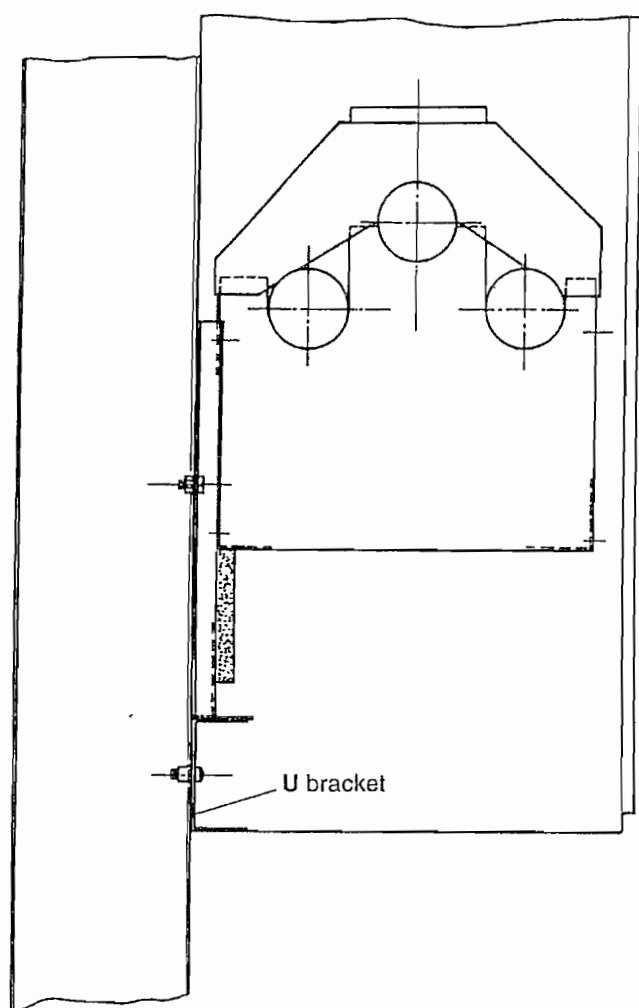

Fig. 50
- l) Remove the single screw from the «U» bracket below the combustion chamber (fig. 50) and remove bracket.
- d) Remove the single screw from the «U» bracket below the combustion chamber (fig. 50) and remove bracket.